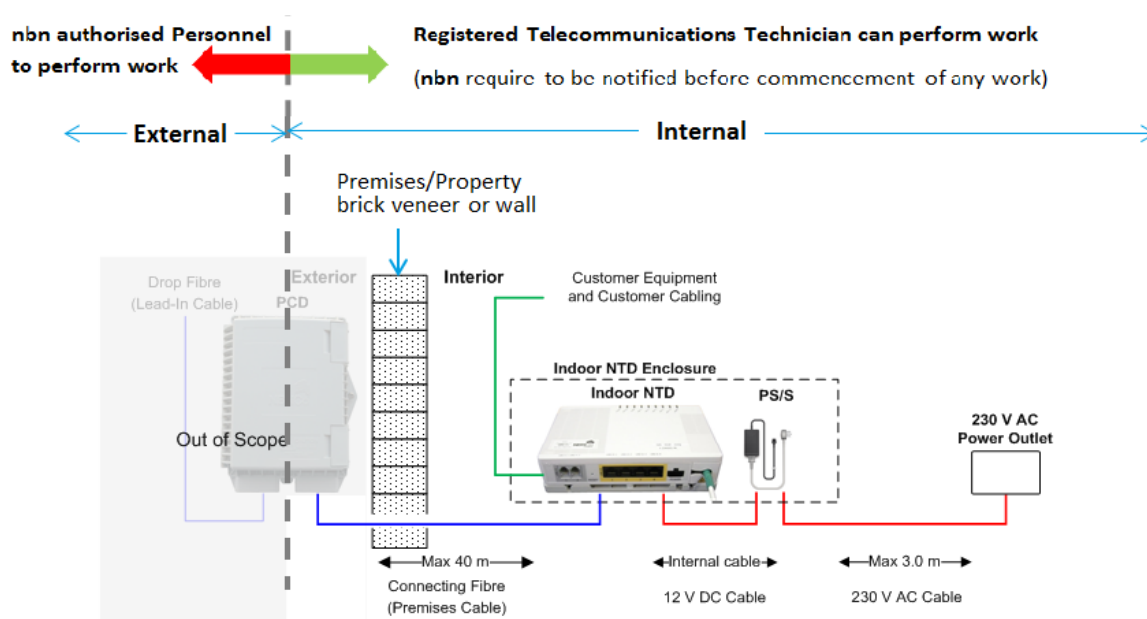

Figure 27 Indoor Fibre NTD and PS/S Power Unit arrangement
- replace, relocate or otherwise alter the **nbn** fibre within premises for renovation, demolition or relocation of the building subject to the boundaries identified in Figure 26 and Figure 27